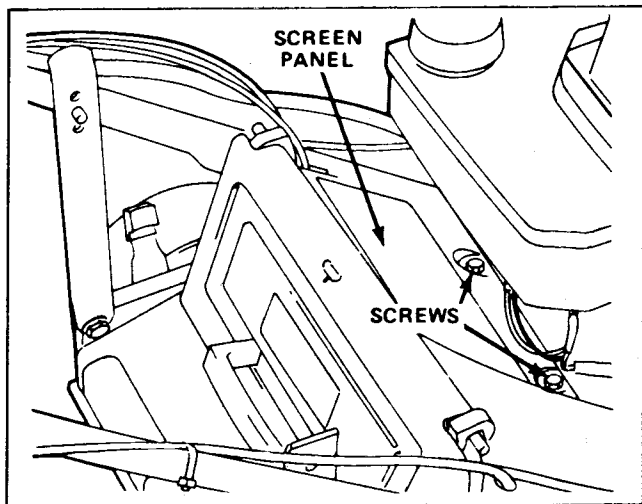

Figure 47
2. Remove the two flanged head self-tapping screws securing the screen panel to the housing and remove the screen panel. See Figure 47.